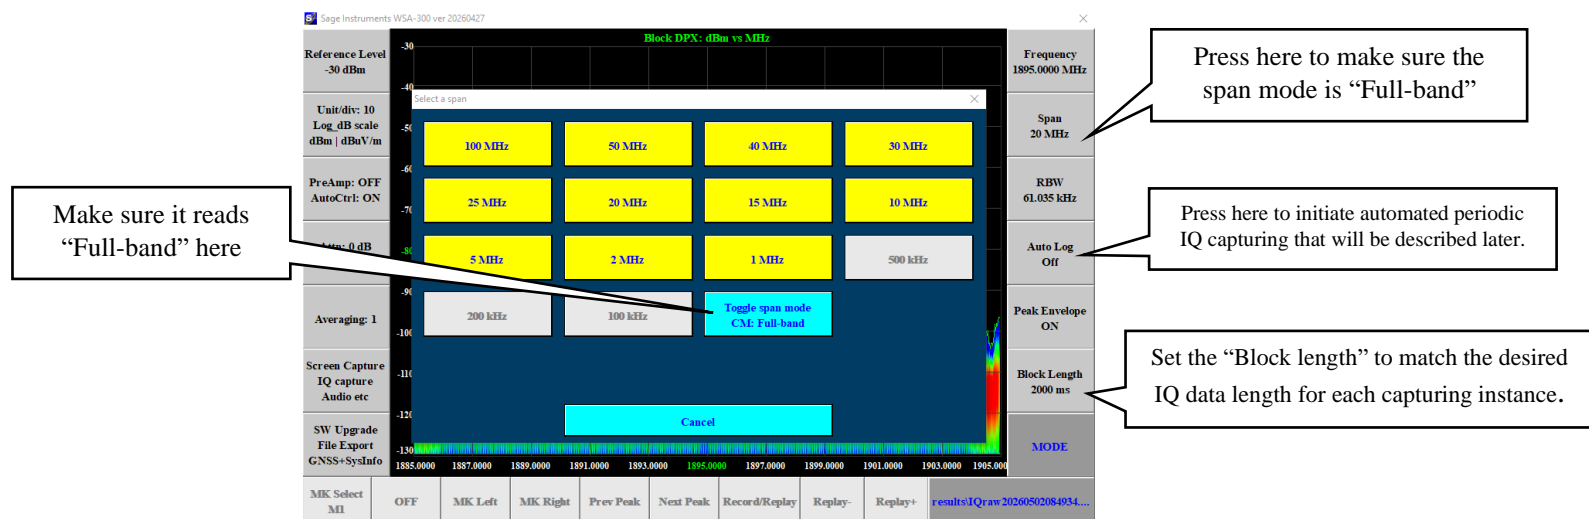
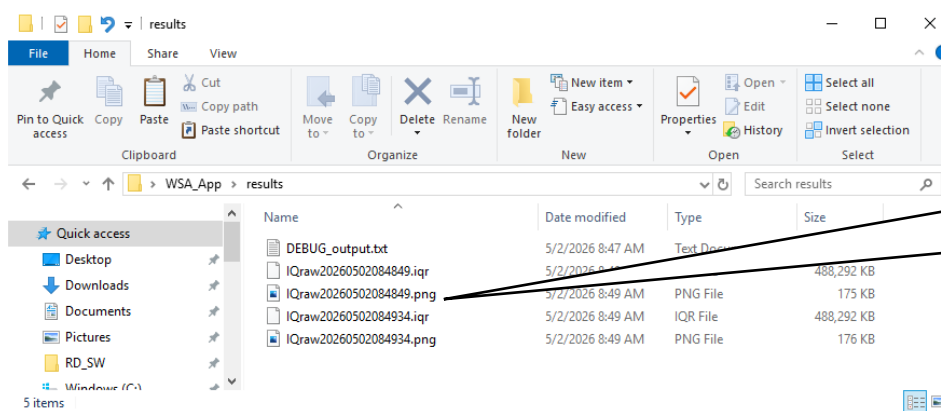

Figure 9 - Setting up the Block DPX properly for IQ capturing
Figure 10 - Buttons to select and start the automated periodic capturing
Once inside the Block DPX feature, first, you also need to make sure the span mode is set to “Full-band” mode when span is under 100 MHz, as shown in Figure 9.
As shown in Figure 9, once entering the Block DPX mode, you should check the following before attempting IQ capturing:
2. Select proper “Block length”. The smaller the span setting, the longer the “Block length” can be set to. For the example shown in Figure 9, with span=20 MHz, the max block length can be set to 2000 ms, meaning that users can capture a single instance of contiguous IQ data stream of 2s long. Please be aware that capturing long IQ data may take a while. A 2s IQ data may take up to 10 seconds to gather, then transport through the ethernet and then be saved into a file. One must be patient! Selecting shorter block length is always more efficient if you do not need long IQ data length to begin with.
As shown in Figure 9, under the Block DPX test function, the right 4 button “Auto Log” allows user to initiate automated periodic screen capturing and IQ data capturing. The intention is to use these two sets of data to train certain RF-AI models for signal identification and recognition. The two data sets (DPX screen capture and raw IQ data) are time-synchronized and refer to the same data sets, so the AI model can either be trained by the screen capture PNG file (which is what we recommend for its simplicity, efficiency and suitability for AI models), or be trained with the raw IQ data if necessary. After pressing “Auto Log” in Figure 9, you’ll see dialog as shown below in Figure 10.
Once proper selection is made in Figure 10, the software will do this:
Example files as a result of setup in Figure 10 are shown in Figure 11.